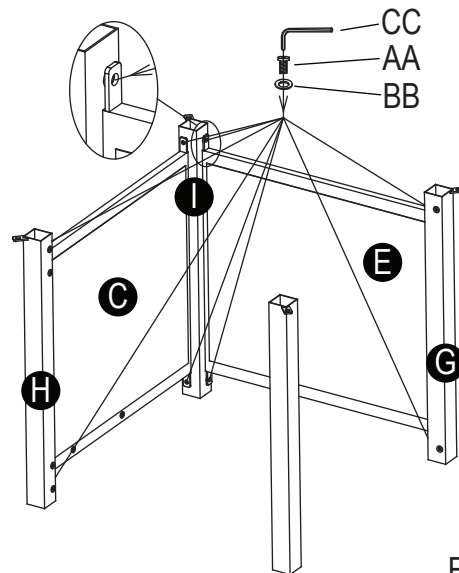

Figure 2
2. Attach the Left Panel (C) to Front-Left Leg (H) and Back-Left leg (I) with Bolt (AA) and Washer (BB) by using the Hex Screw Driver (CC). Attach the Back Panel (E) to Back-Right Leg (G) and Back-Left leg (I) with Bolt (AA) and Washer (BB) using the Hex Screw Driver (CC), (see Figure 2).